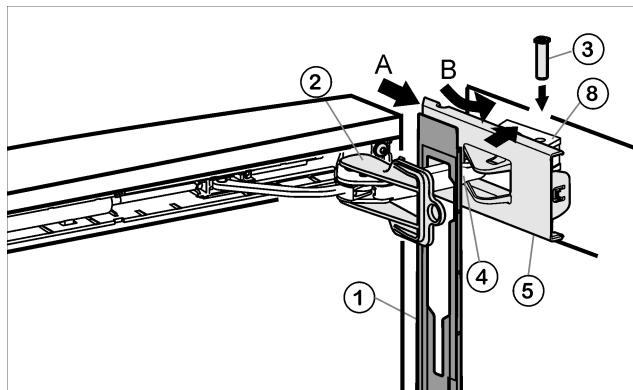

Fig. 18
- ▶ Hook panel Fig. 18 (1) into the damper bracket Fig. 18 (4) such that the detent hooks are pointing inwards and the front side is facing the appliance.
- ▶ Push on cover Fig. 18 (5) from the outside (A) and pivot over the bearing part Fig. 18 (8) (B).
- ▶ Place cover Fig. 18 (5) on top and allow to snap into place until the first notch.
- ▶ Pull damper bracket Fig. 18 (4) towards bearing bracket and insert bolt Fig. 18 (3) from above such that the square is resting in the recess.
- Now snap cover Fig. 18 (5) completely into place on the bearing part Fig. 18 (8).
- Remove locking device Fig. 18 (2) by twisting it.
- Snap panel Fig. 18 (1) into place on the door.